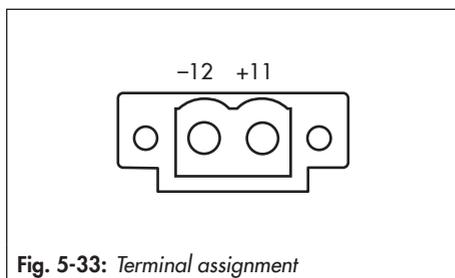

Fig. 5-33: Terminal assignment
- Connect the electrical power (mA signal) at the positioner as shown in Fig. 5-33.